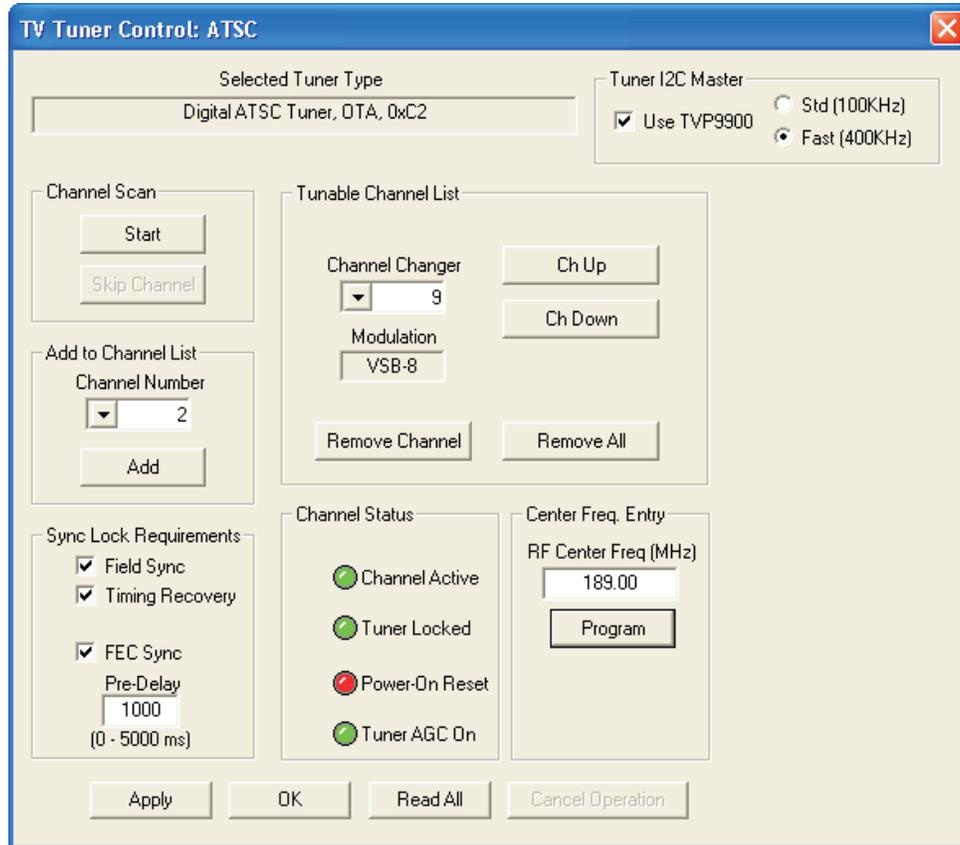

Figure 7. TV Tuner Control for ATSC
9. In the TV Tuner Control window, as shown in Figure 7, select a channel from the "Add to Channel List"